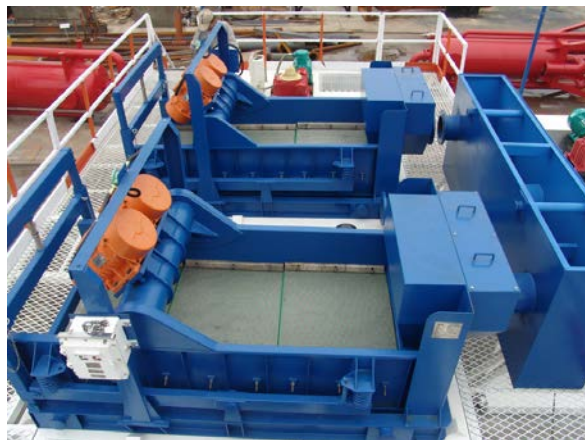

Fig.2
- Shale shaker (Fig. 2) specification